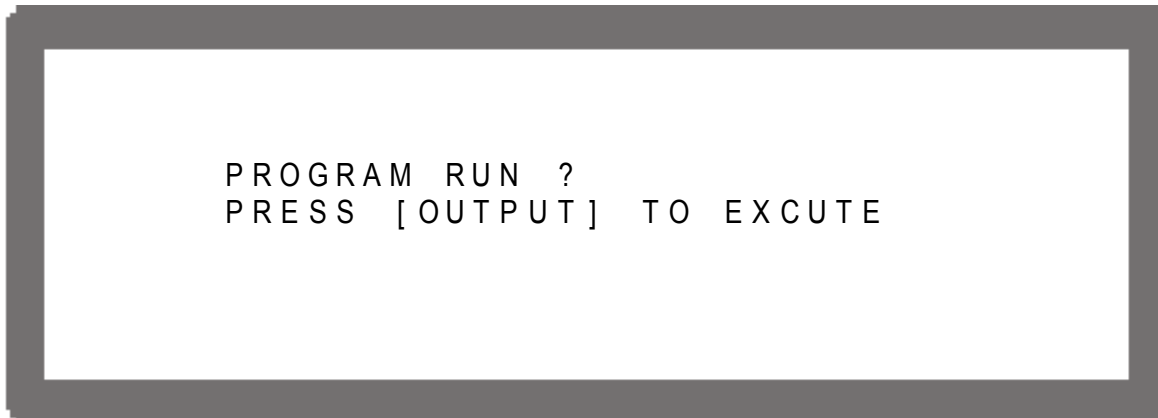

Figure 4-15
1. Press “” will prompt a confirmation page as Figure 4-15 shows.
1. Press in Program page (Figure 4-3) or Sequence page (Figure 4-8) will prompt a confirmation page as Figure 4-15 shows.
1. Press will appear a confirmation window as Figure 4-15 shows.